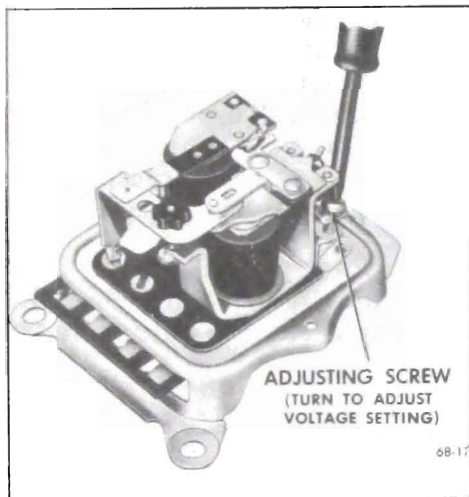

Figure 68-15--Adjusting Voltage Regulator Setting
5. Reinstall connector to regulator. Adjust voltage regulator to 14 volts. To increase voltage setting, increase spring tension; to decrease voltage setting, decrease spring tension. See Figure 68-15.